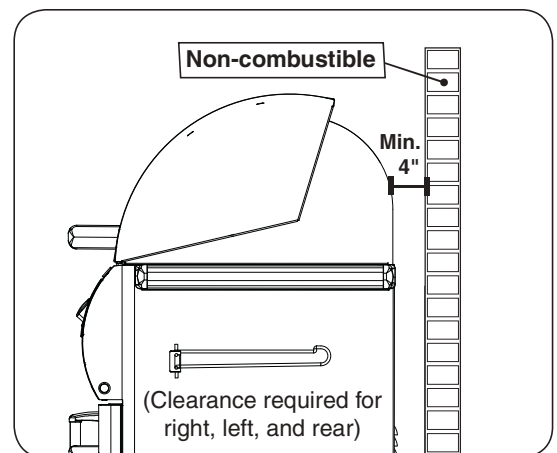

Fig. 13-2 Clearance 'B' Diagram
B. Clearance between grill and strictly non-combustible wall (i.e. brick wall, see Fig. 13-2)